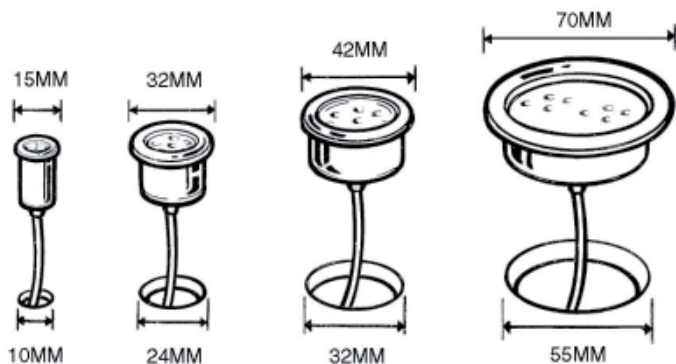

Fig. 2
- When you are satisfied that the spotlights are placed right, drill \varnothing 24mm holes (See Fig. 2).